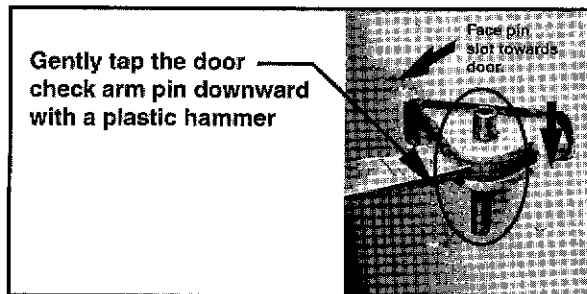

Figure 4
7. Carefully, tap and install the pin with the slot facing towards the door assembly (Figure 4). **IMPORTANT:** To avoid future door popping sound, make certain to face the pin slot towards the door when re-installing.